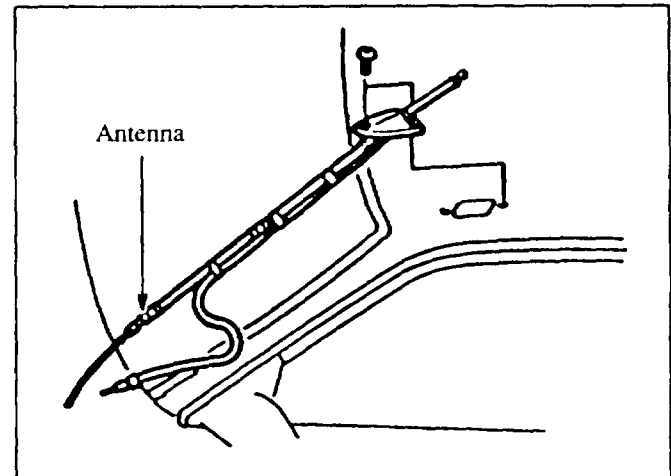

Figure 13: Inspecting Antenna Bezel
4. If the leak persists, inspect the antenna bezel molding and gasket for correct sealing and mounting. Confirm that the mounting screw is fully seated and that the gasket is firmly contacting the roof sheet metal. **Figure 13.**